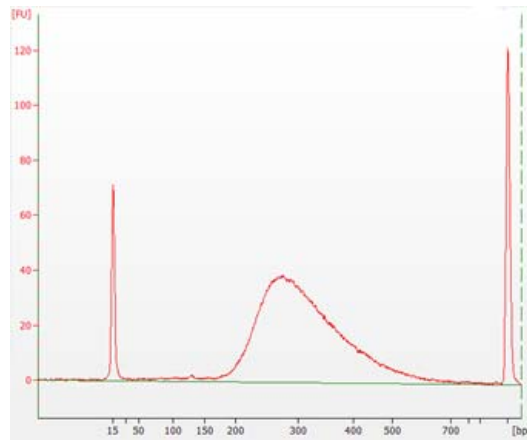

Figure 2 Analysis of amplified prepped library cDNA using a DNA 1000 assay. The electropherogram shows a single peak in the size range of 200 to 600 bp.
- 5 Verify the results. A sample electropherogram is shown in Figure 2.